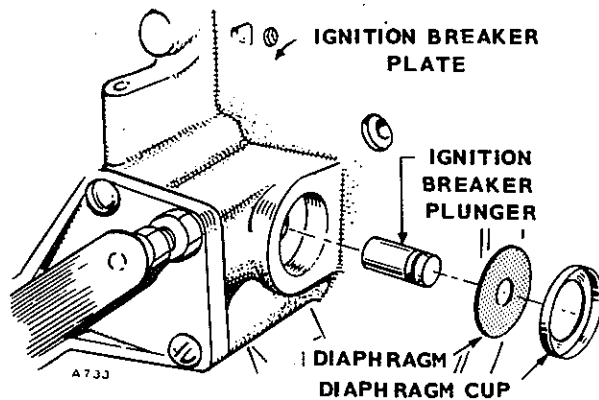

FIGURE 10-48. BREAKER PLATE ASSEMBLY
4. Install breaker plate. Install ignition plunger and diaphragm and diagram cup, Figure 10-48.